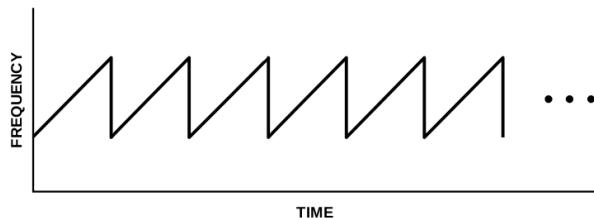
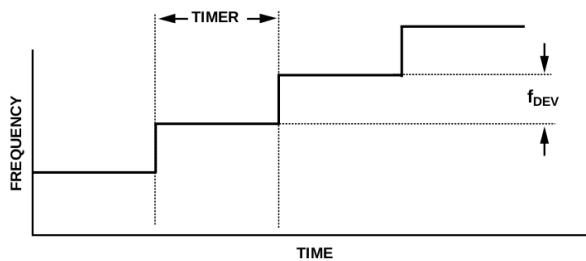

Figure 3.12: Sawtooth ramp.
Figure 3.13: Waveform timing.
The ADF4158 is capable of producing several different waveforms. The one used in this design is a sawtooth ramp in frequency as a function of time, shown in Figure 3.12. There are 3 different parameters that determine the shape of a ramp: (1) frequency deviation (the amount the frequency increases at each time step), (2) timeout interval (the amount of time between each time step) and (3) the number of time steps. This is shown diagrammatically in Figure 3.13. The equations governing these parameters are given in Equation 3.6. The number of steps is set directly in register 6. In our configuration $f_{\text{DEV}} = 300\text{kHz}$ and Timer = $0.5\mu\text{s}$, which given that the number of steps is equal to 2000 and the starting frequency is 5.3GHz, the sawtooth will ramp from 5.3GHz to 5.9GHz in 1ms. We also use a delay between bursts of 2ms. Equation 3.7 is used to derive this.